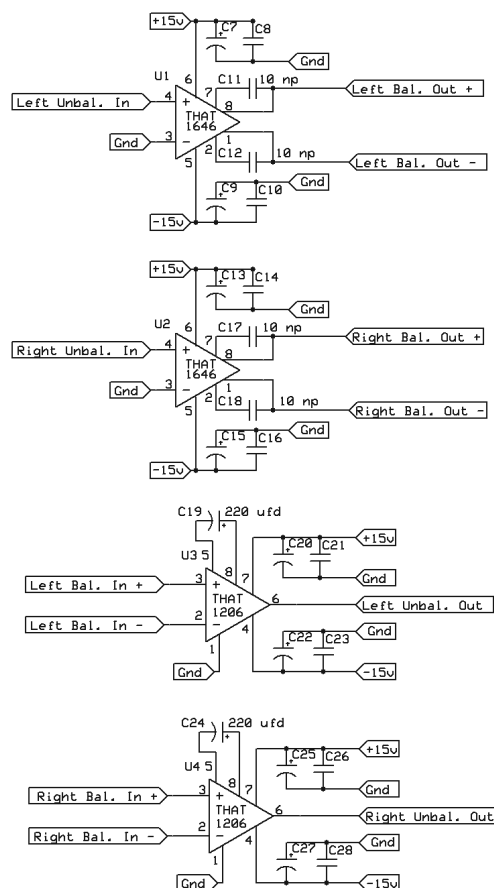

FIGURE 1: Unbalanced/balanced converter circuit.
- A schematic as previously shown in Fig. 1.